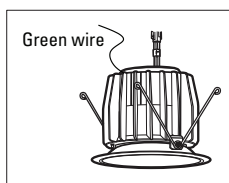

Figure 1
- 3 Disconnect and discard the E26 Adaptor from module (see Figure 1).